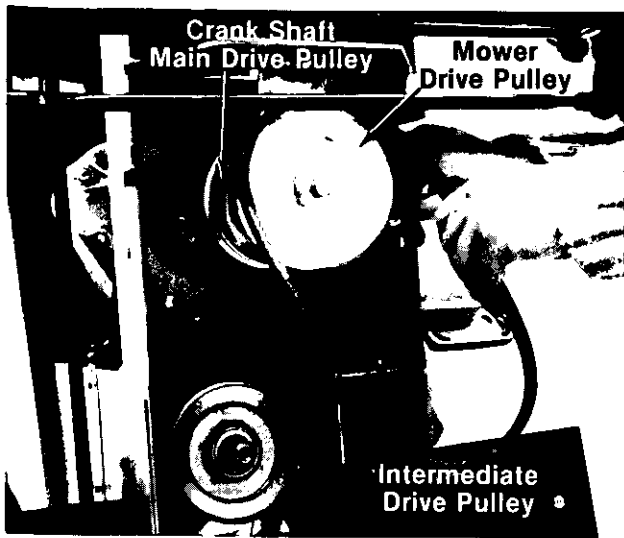

FIGURE 30.
4. Slip the crankshaft main drive belt from the intermediate drive pulley and the crank shaft main drive pulley. See figure 30.